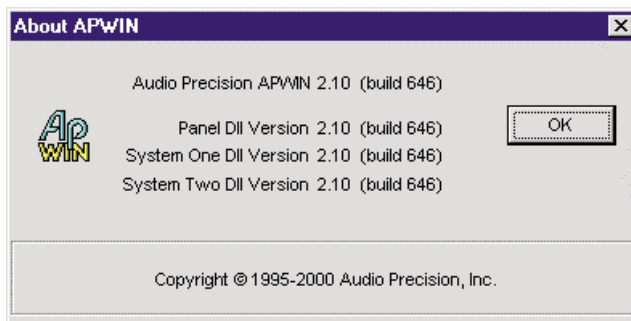

Figure 5-13. About APWIN window (typical-- your version and build numbers will be different)
- APWIN version number (see Figure 5-13)